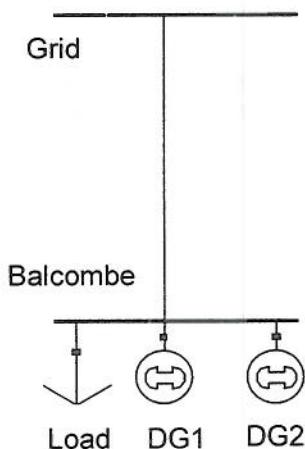
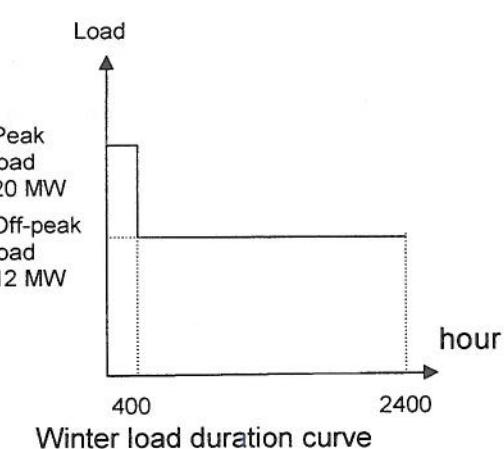

Figure Q4.1
Figure Q4.2
- (c) Busbar Balcombe will be a new supply hub for several villages in West Sussex. EDF Energy engineers plan to connect Balcombe to the main grid through a 5 km, 33 kV overhead distribution circuit. There are also 2 identical landfill gas based distributed generators of 5MW capacity each connected to Balcombe, as shown in the figure Q4.1. The winter profile of the load connected to Balcombe Busbar is shown in figure Q4.2.